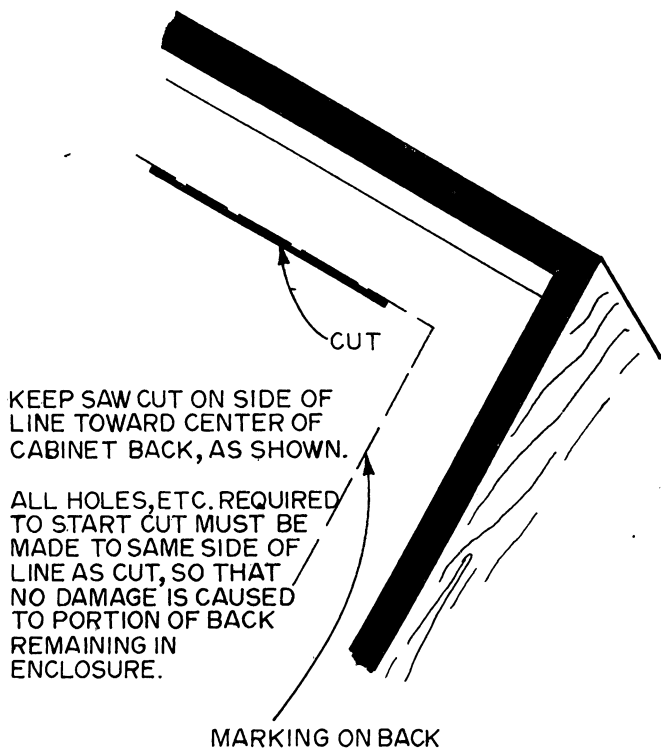

FIGURE 2 – AREA OF CUT
3. Referring to Figure 2, cut along the four (4) lines marked in step 2, using a sabre saw or router.